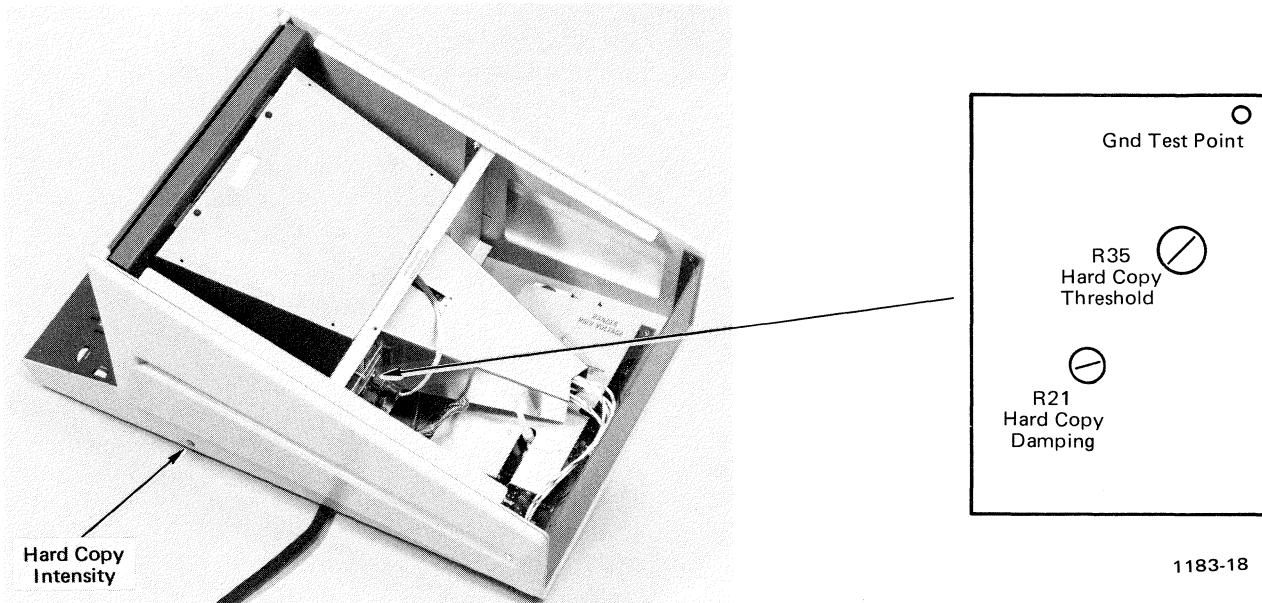
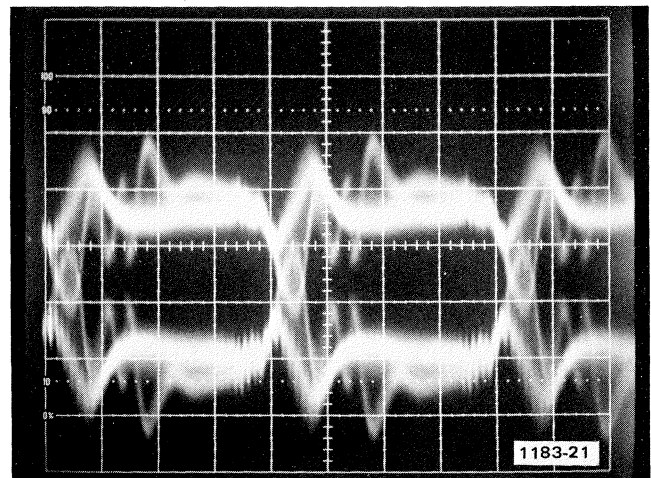

Fig. 4-13. Hard Copy Adjustment on Display Unit.
Fig. 4-16. Hard Copy Threshold Waveform; 0.2 V/division vertical, 0.5 V/division horizontal.
a. Turn the Hard Copy Intensity (side of Terminal display unit—Fig. 4-13) fully clockwise.
a. Set the test oscilloscope for 0.2 V/division and 0.5  $\mu$ s/division. Connect the channel 1 probe to TP32 on the Hard Copy TARSIG Amplifier board, attaching the probe ground lead to the ground test point (Fig. 4-13).
d. Preliminary adjustment. Adjust Hard Copy Damping (R21 on the Hard Copy TARSIG Amplifier board, Fig. 4-13) for maximum negative pulse amplitude with minimum ringing as in Fig. 4-15A.
b. Connect a probe from channel 2 of the oscilloscope to TP30 on the Hard Copy TARSIG Amplifier board (Fig. 4-13). Connect the probe ground lead to ground.
e. Press MAKE COPY and observe the oscilloscope display for a waveform as in Fig. 4-16. The channel 1 display (TP32) should be above the channel 2 display, and the written pulses should overlap for approximately 1/3 of the distance between the two traces. Ringing should remain well separated. (Trace separation will probably end up being between 0.4 and 0.8 V.)
f. Adjust Hard Copy Threshold (R35, Fig. 4-13) to obtain a display as in Fig. 4-16.